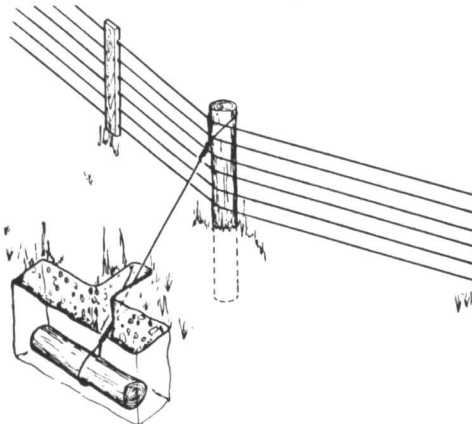

Fig. 10. Installation of a deadman anchor tie back to prevent fence failure at a dog leg by fence post pullout.
direction, also with an end or gate brace (Fig. 8); (2) installing four or six panel brace assemblies to increase the resultant effective length beyond the critical length (Fig. 9); and (3) installing a deadman anchor tie back (Fig. 10). These methods do work, but are generally more costly to install than a single diagonal brace. A single diagonal brace is easy to install and works very well in repairing or correcting an